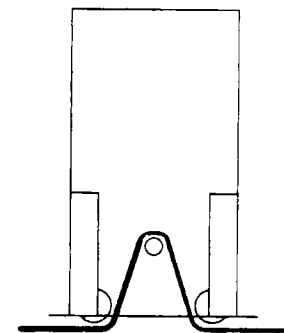

FIGURE 1.6.2A
1. Before mounting the operator to the pad, position the chain idlers as shown in figure 1.6.2A.
3. Position the operator on the mounting plate. If the mounting plate assembly has been installed correctly, there should be a minimum clearance of one (1) inch between the back of the operator and the gate, and the back of the operator should be parallel with the gate. **If these conditions do not exist, make corrections now!**